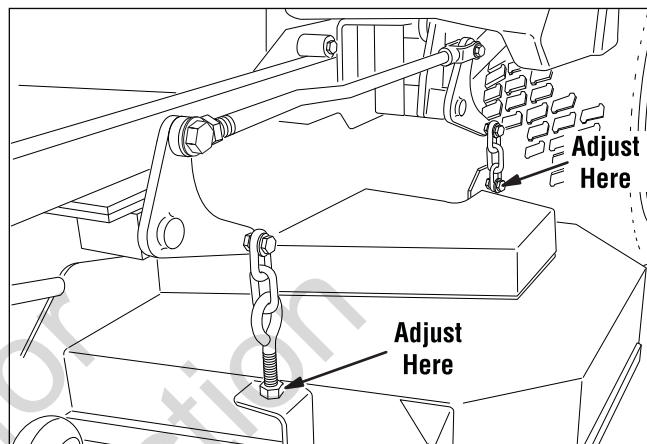

Figure 48. Adjust the Mower Deck Leveling
4. Adjust the front eyebolts until the chains are tight and the deck is still resting on the 2 X 4's. Tighten the jam nuts. See Figure 48.
5. Loosen the nuts and allow the rear of the deck to rest on the 2 X 4's. Slide the chains down in the slots until the chains are tighten and tighten the nuts. See Figure 48.